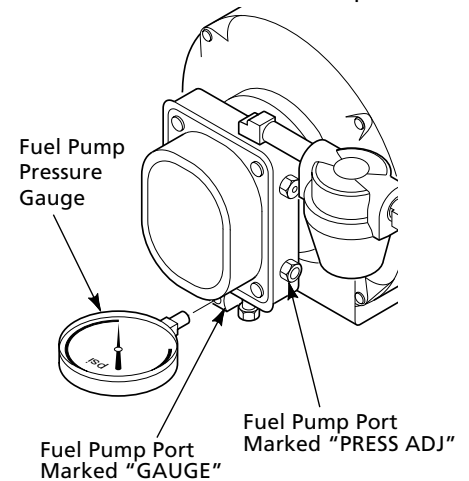

Figure 21 - Adjusting Pump Pressure
2. Install accessory pressure gauge (part number 110380-01) to fuel pump port marked "GAUGE" (See Figure 21).